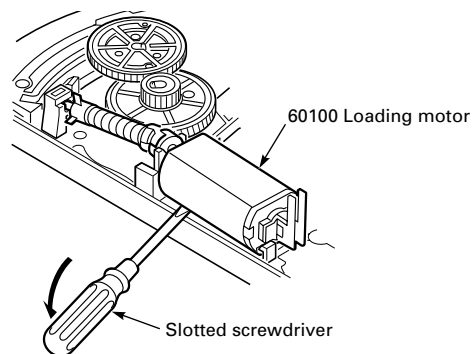

Fig. 8.13
- Lever off the loading motor (60100) at the front with a slotted screwdriver and take it out from the clamps together with the worm wheel (60200, Fig. 8.13).